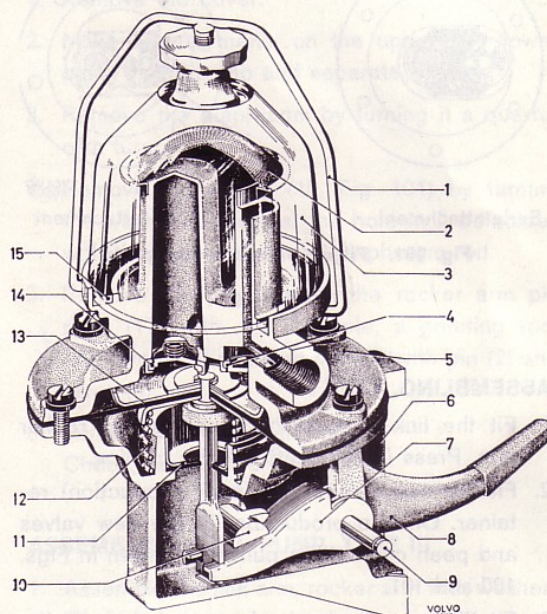

Fig. 99. Fuel pump, type I
3. Remove one circlip for the rocker arm (8, Fig. 99) shaft (9). Press out the shaft. Remove the rocker arm, spring, link arm (7) and washers.